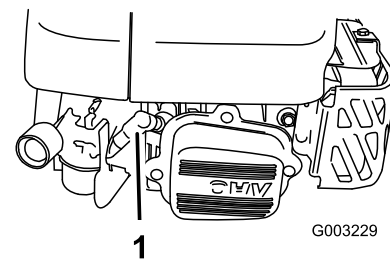

Figure 33
- Disconnect the spark plug wire from the spark plug (Figure 33) before performing any maintenance procedure.